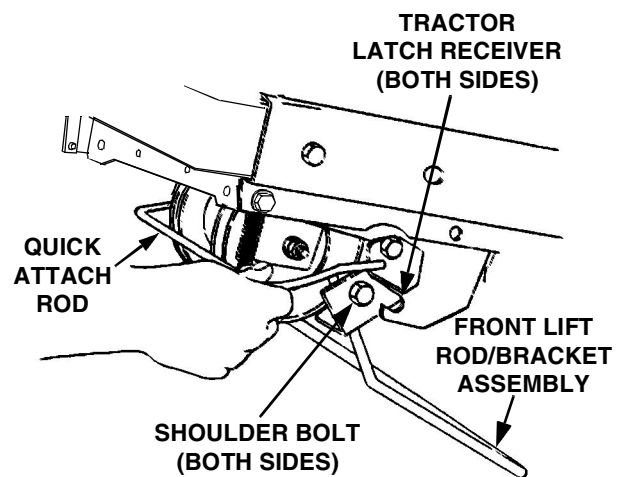

Figure 6-17
10. From the front of the tractor, push downward and hold the tractor quick-attach rod. Pull the front lift rod/bracket assembly forward to release the shoulder bolts on each side of the bracket from the left and right tractor latch receivers. Release the tractor quick-attach rod ( Refer to Figure 6-17).